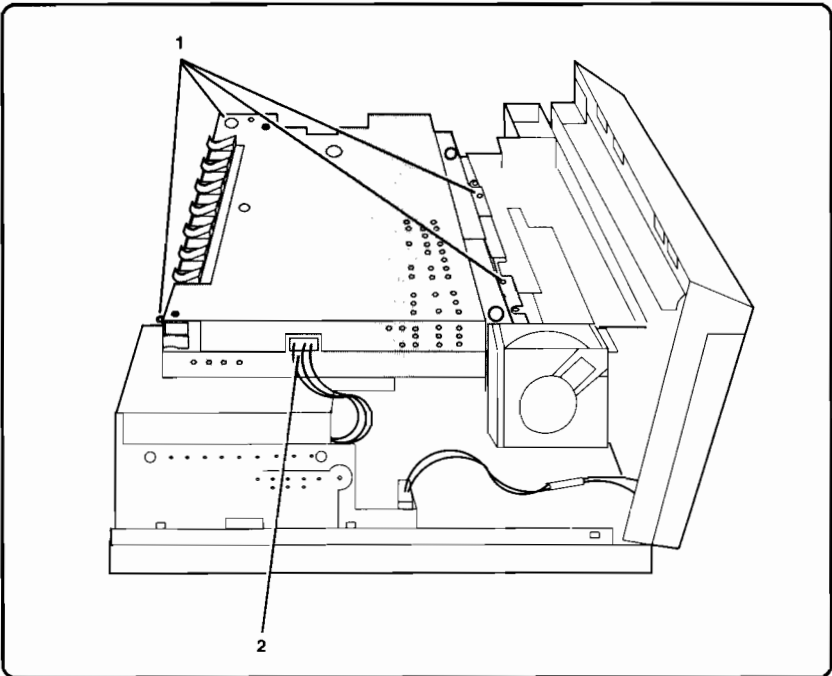

Figure 6-26. Formatter PCA/Shield Assembly Removal
4. Remove the screws (4) with star washers securing the PCA Shield (see Figure 6-26, callout 1).
5. Disconnect the power cable from the Formatter PCA (Figure 6-26, callout 2) and lift the Shield Assembly straight up to remove it.
3. Remove the Formatter PCA/Shield Assembly (see Figure 6-26).
4. Unplug the cable connectors (10) to the DC Controller.